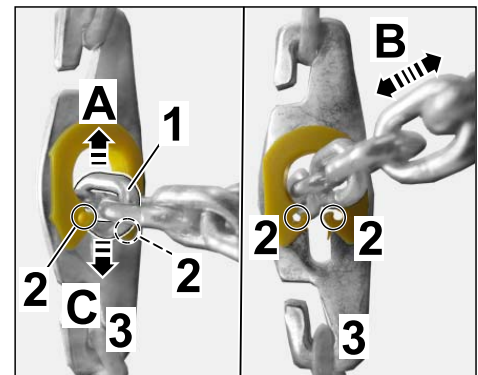

Figure 9
- 2.2.3 Guide chain link of the tensioning chain out of the lock in the slot on the locking plate (⇒ *Figure 9-arrow A-*).